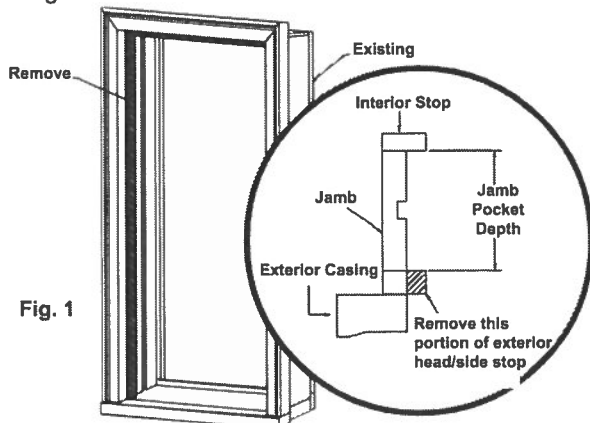

Fig. 1
5. Using a reciprocating saw, cut the exterior head and side stops so they are flush with the exterior casing and side/head jambs. See Figure 1.